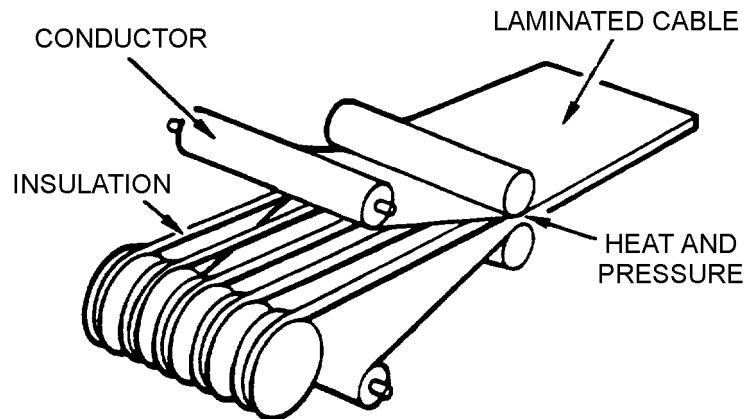
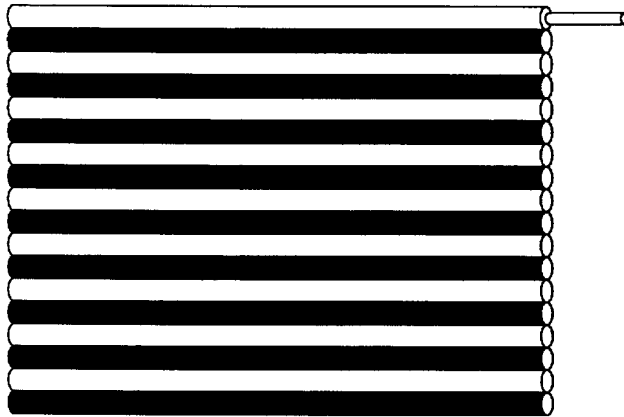
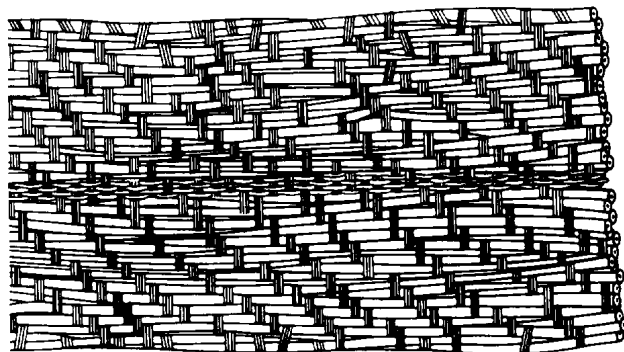

Figure 1. Laminated, Flat Conductor Ribbon Construction
Figure 2. Bonded Ribbon Cable
Figure 3. Woven Ribbon Cable
2. This work package (WP) describes the various types, names, construction, application, termination, and applicable military specifications of flat flexible cable. The term or description flat flexible cable will bring several thoughts and varied images to mind. Synonymously called ribbon, tape, printed, laminated, calendered, etched, contoured, and woven, these names have been derived from the process of manufacture, construction, application or appearance. Flat flexible cables have certain physical and electrical characteristics which make them especially suited to particular requirements. However, as with conventional round cables, they have disadvantages as well as their many advantages.
4. A flat cable (ribbon) is two or more parallel twisted, round conductors, placed in the same plane, and held together by an insulating material (Figure 1). The conductors are insulated individually then bonded (Figure 2) or woven together (Figure 3). A flat cable assembly can generally be viewed as a multiconductor flat cable (ribbon) with all conductor ends terminated. In most cases the conductors will end in groups attached to a connector or termination bus. The cable and cable assemblies discussed herein will be limited to a laminated, flat conductor ribbon cable which will be referred to as a laminated ribbon cable, a bonded, round conductor ribbon cable which will be referred to as a bonded ribbon cable, and a woven, round conductor, ribbon cable which will be referred to as a woven ribbon cable.